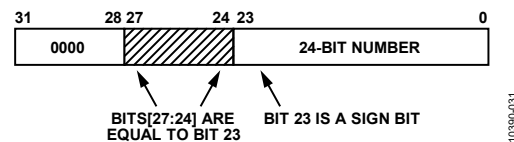

Figure 51. ZPSE Communication Format
The ADE7816 includes 8-, 16-, and 32-bit, signed and unsigned registers. All signed registers are in two's complement format. Some of the internal measurements are 24 bits long and have been extended to 32 bits prior to communication. This extension is accomplished in three different ways: sign extending (SE), zero padding (ZP), or zero padded and sign extended (ZPSE). When sign extending is used, the sign bit (Bit 23) of the two's complement signed number is duplicated in the uppermost byte prior to communication. Zero padding is achieved by writing 0s into the upper most byte prior to transmission. This format is used for unsigned numbers only. ZPSE formats are shown in Figure 51 and involve padding the most significant bits with 0s and sign extending Bits[27:24].